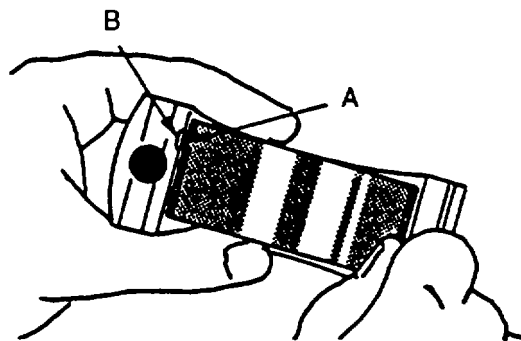

FIGURE 3-169. Installing Connecting Rod Cap Bearing
- f. Install other bearing insert in connecting rod cap with tang (A, FIGURE 3-169) in groove (B). Put clean engine lubricating oil (MIL-L-2104) on insert.